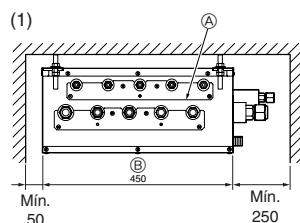

Fig. 4-4
#### (1) Vista frontal (Fig. 4-4)